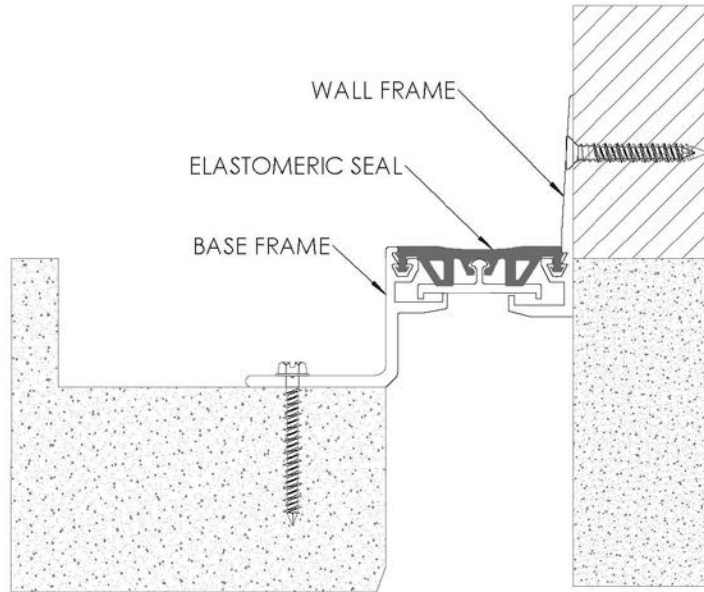

FIGURE 5
5. Position the elastomeric seal into position and push the seal bulbs into the base frame and wall frame top channels as shown. Make sure the bulbs are seated all the way into the channel. Also, make sure the bottom center channel in the seal is pushed over the protrusion on the slide plate (not required on 1” joint sizes). **See Figure 5**